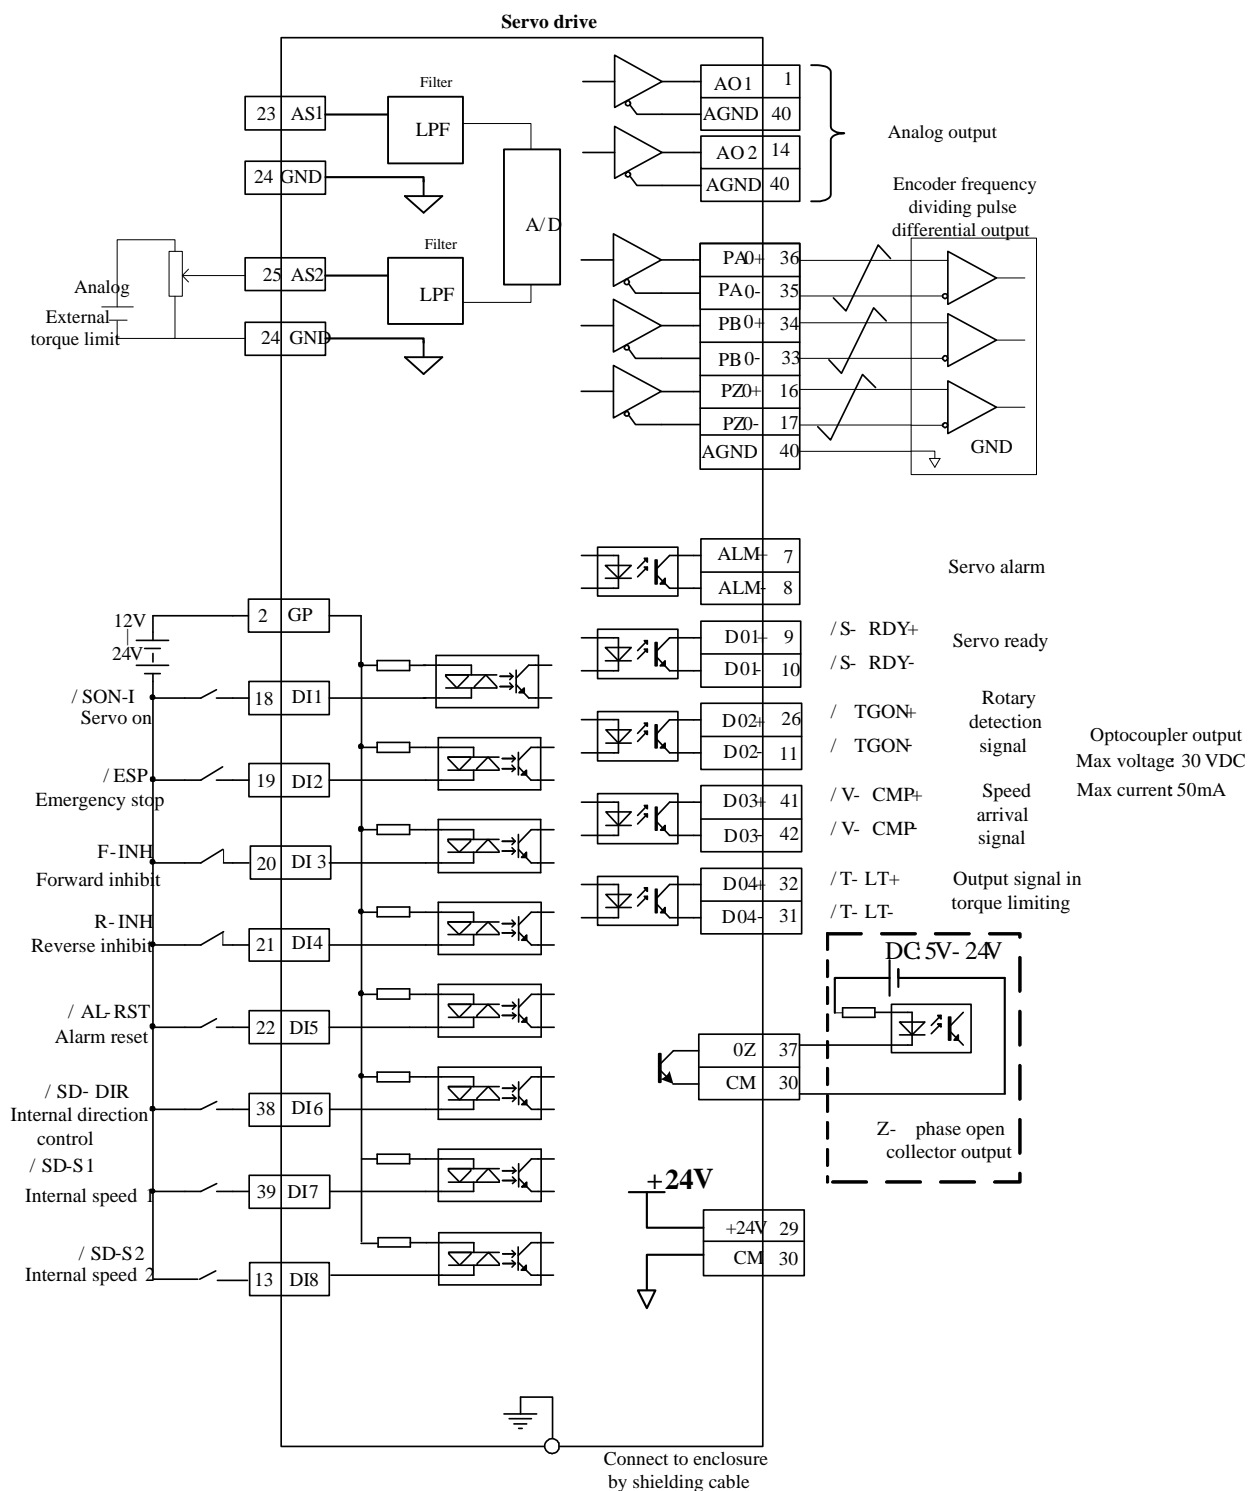
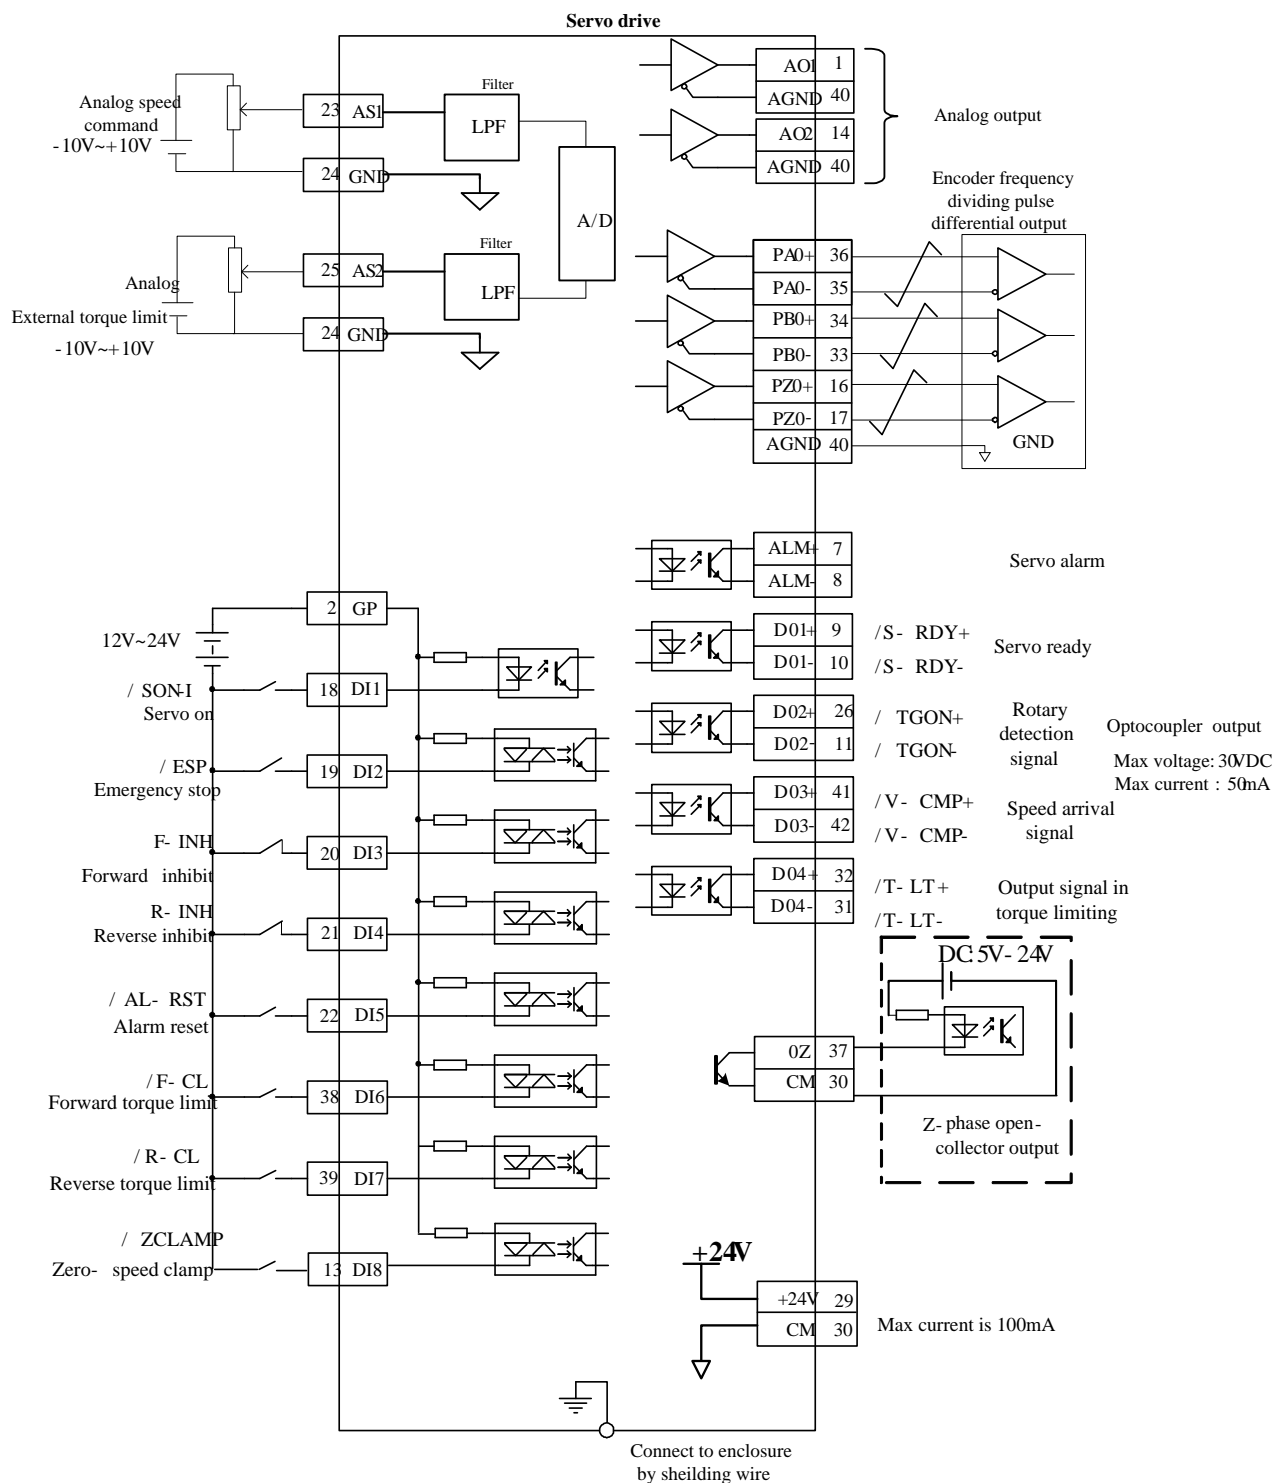

Fig6.2.2 Wiring of internal speed mode
Fig 6.2.3 Connection of internal speed mode
- ★ Refer to Fig 6.2.2 and Fig 6.2.3 to connect DI/DO.